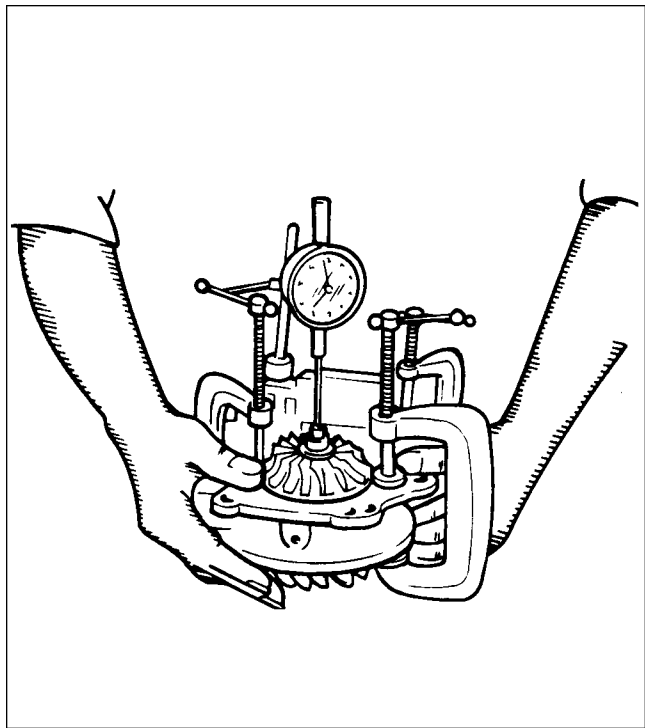

Figure 81-2. Measuring Turbine Shaft End Play
7. Use two C-clamps, as shown in figure 81-2 to overcome the tension of the spring ring and hold the turbine shield away from the turbine wheel.
8. Attach a dial indicator to the bearing housing so that the indicator point is resting on the end of the shaft. Push up on the turbine wheel as shown in figure 81-2 to measure shaft end play. The normal shaft end play is 0.005 to 0.009 inch. If shaft end play is excessive, rebuild the turbocharger.